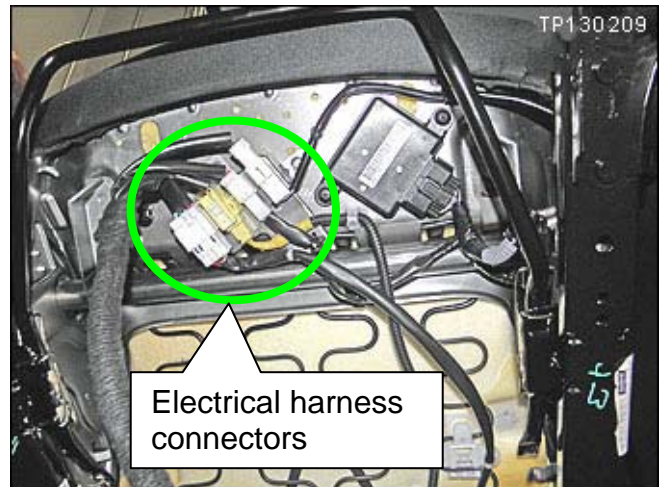

Figure 7
9. Disconnect the electrical harness connectors shown in Figure 7.